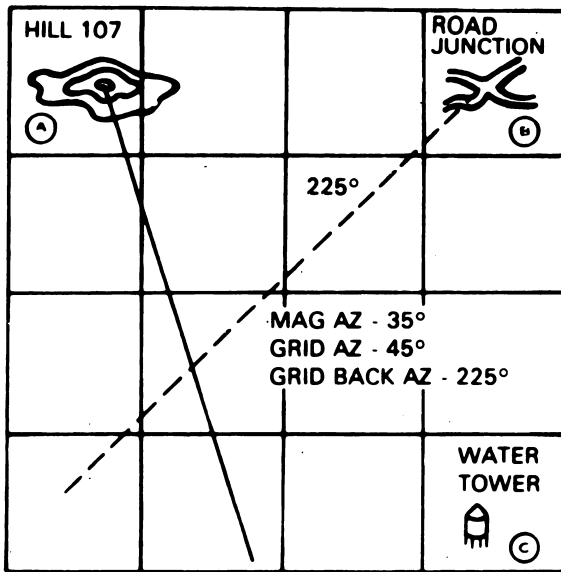

Figure 1c
STEP 6: Repeat steps 3 through 5 for a second and third known position (figs. 1c and 1d).